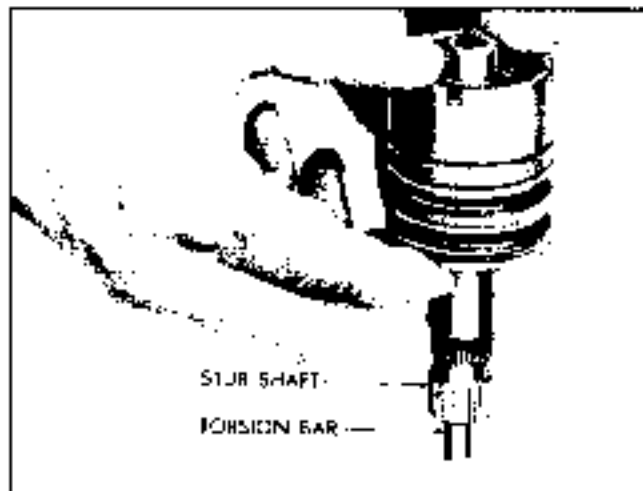

Fig. 9-54 Tapping in Loosened Valve Spool
2. Tap end of stub shaft assembly gently against workbench to remove valve spool (Fig. 9-54).